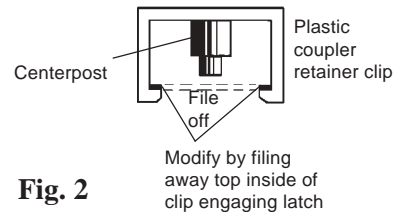

Fig. 2
2. It will be necessary to modify the coupler retaining clip by filing the clips engaging latch projection on the inside edge just enough to allow clearance for the #28 Coupler to swing freely as shown in Fig. 2.